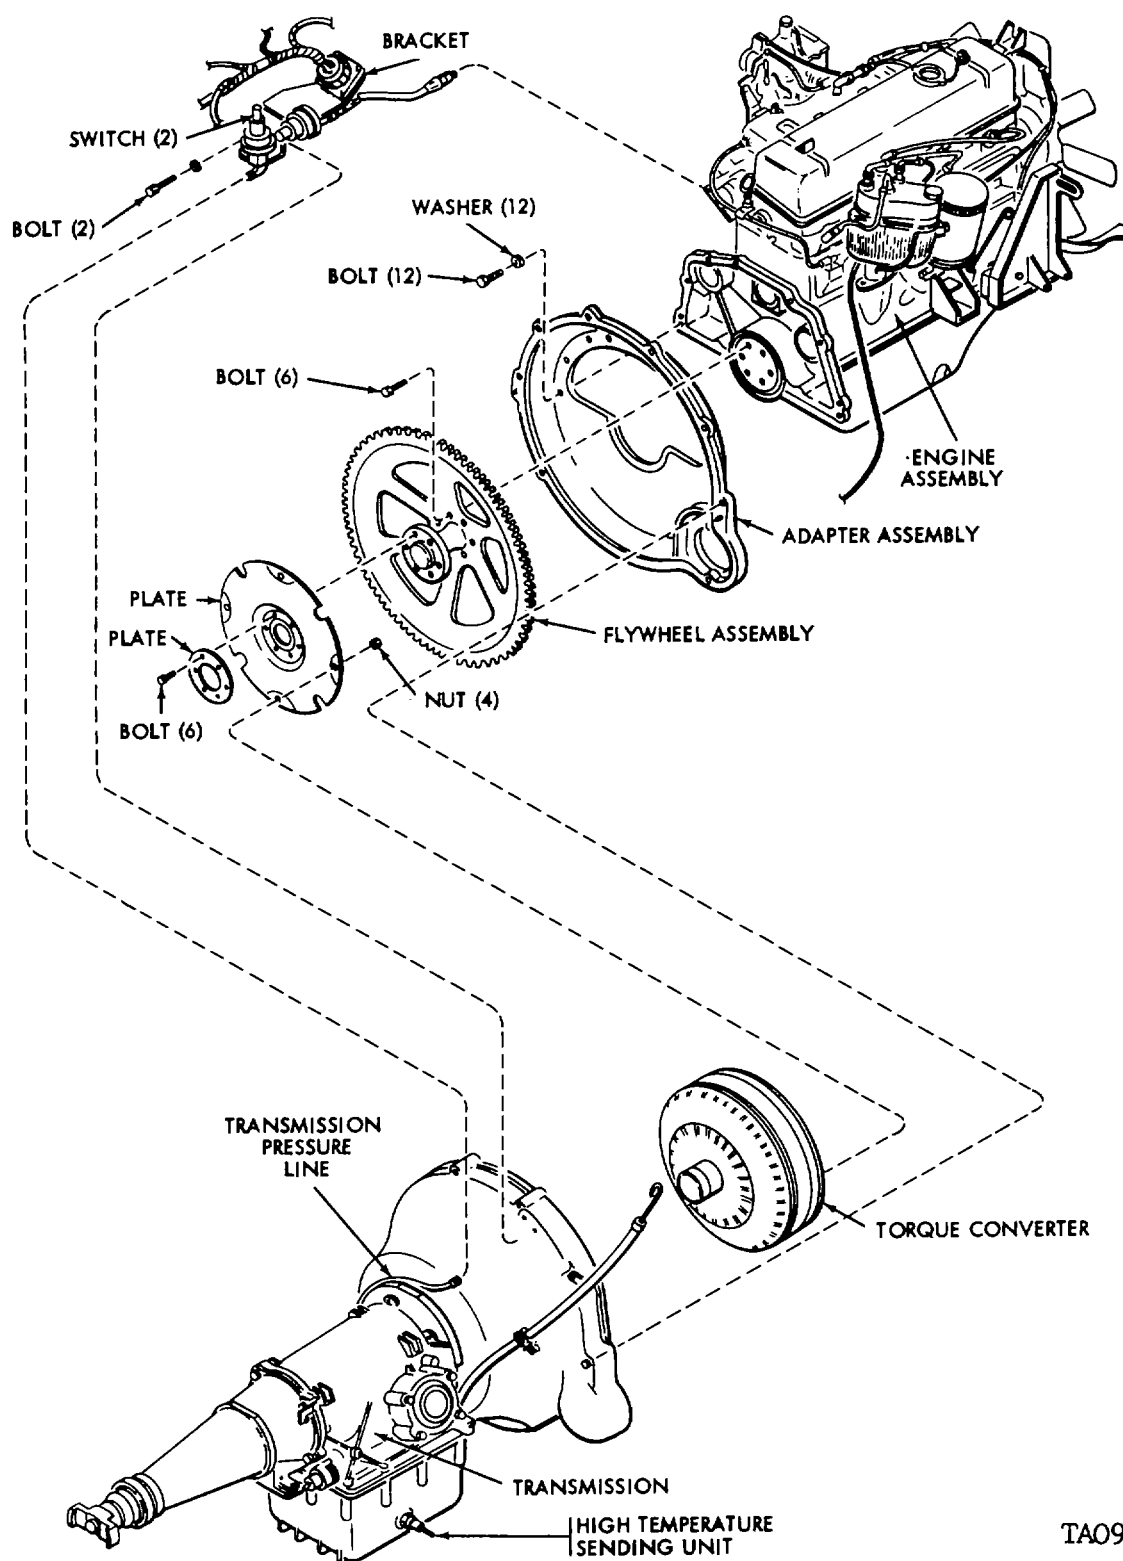

Figure 4-1.5. Transmission and Torque Converter Replacement
a. Removal (fig. 4-1.5).
- (1) Remove engine-transmission assembly (para 4-2).
- (2) Remove engine-transmission throttle linkage.
- (3) Remove torque converter access cover.
- (4) Drain transmission and torque converter (refer to LO 9-1450-500-12).
- (5) Remove four nuts from torque converter studs. Safety wire torque converter to transmission to prevent torque converter from sliding off splined shaft when disassembling transmission from engine.
- (6) Disconnect transmission pressure switch hose at upper connection.
- (7) Disconnect transmission high temperature sending unit lead at sending unit (fig. 4-1.5).
- (8) Remove vacuum line from transmission and oil level tube.
- (9) Remove two bolts and washers which secure pressure switch mounting bracket.
- (10) Remove seven bolts from adapter assembly and separate transmission and torque converter from engine.
- (11) Remove safety wire and slide torque converter carefully from transmission to prevent damage to seal. Wrap splines and cover torque converter opening.
a. Removal (fig. 4-1.5). The following special tool is required to perform the removal and installation procedures: